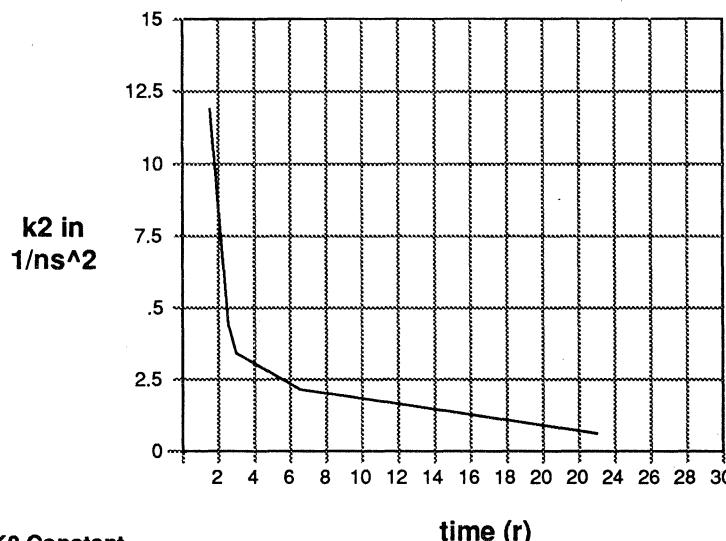

Figure 4. K2 Constant
The time from Δo until the dot density equals zero was defined to be the "time to metastable release" or simply time(r). The relationship between k_2 and time(r) is given below in (5), and shown graphically in Figure 4. Recall that MAX=2.5x10⁶ and $a=\log(e)$.